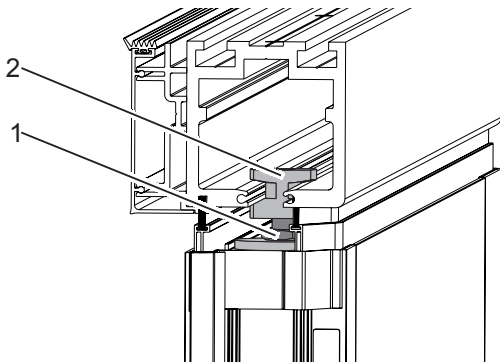

Fig. 16: Fastening the fixed panel holder
- Slightly turn the locking screws (Fig. 16/1) on the fixed panel holders (Fig. 16/2) until the fixed panel holder is fixed.